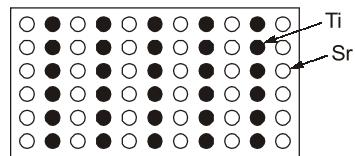

Fig. 3.1 Atomic resolution image of strontium titanate
- Neutron beam is scattered by magnetic field. X-ray beam provides atomic resolution image and an image of strontium titanate as obtained by X-ray beam is as shown in fig. 3.1.